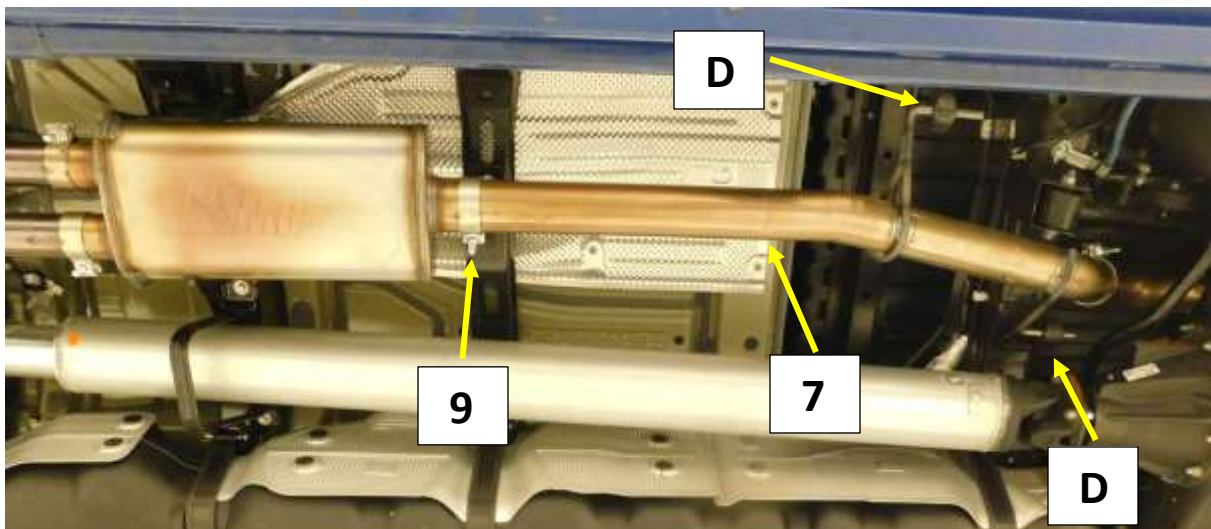

Figure 6
8. Install a supplied 3" band clamp (9) on to the muffler outlet with the bolt to the inside and nut facing the ground. **Fig.6**
9. Install the Muffler Outlet pipe (7) into the muffler. **Fig.6**
10. Install the (x2) rubber isolators (D) on to the hanger rods. Tighten the clamp to allow for adjustment **Fig.6**